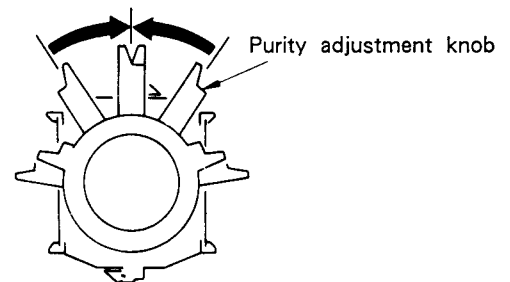

Fig. 8-2.
- 3) Loosen the bracket holding the deflection yoke and set the purity adjustment knob to the center. (Fig. 8-2.)